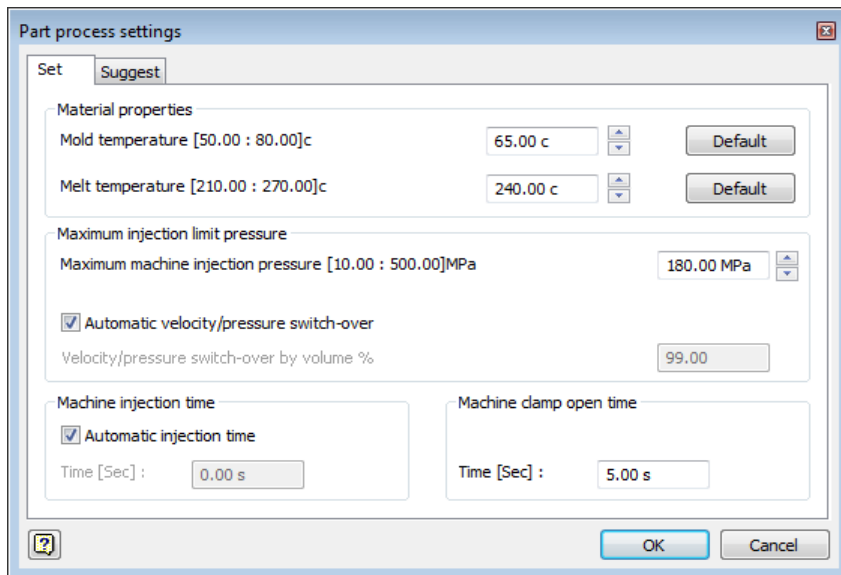

Figure 19-68 The Part process settings dialog box
1. Choose the **Part Process Settings** tool from the **Plastic Part** panel in the **Core/Cavity** tab of the **Ribbon**; the **Part process settings** dialog box is displayed, refer to Figure 19-68.